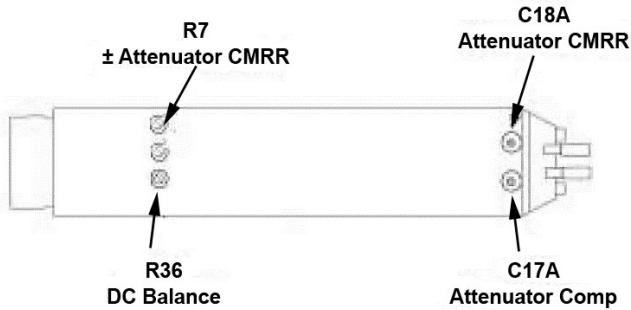

Figure 10, Probe Tip Adjustment Locations
12. Adjust  $\div$  **CMRR** (R7) for minimum amplitude. (See Figure 10 for location.)
- Adjust **Attenuator Comp** (C17A) for a flattop waveform. See Figure 10 for adjustment location.